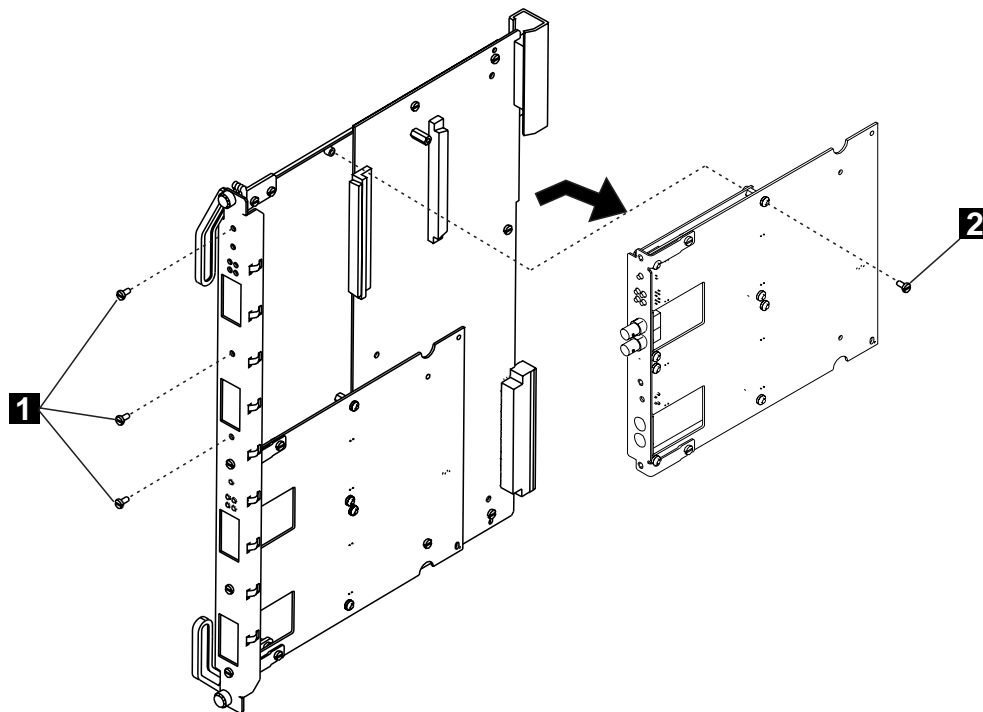

Figure 4-10. Removing the Motherboard
- a** Detach the motherboard by removing the four screws (**1** and **2** in Figure 4-10) that hold the motherboard to the module. Retain the screws for reattaching the motherboard.